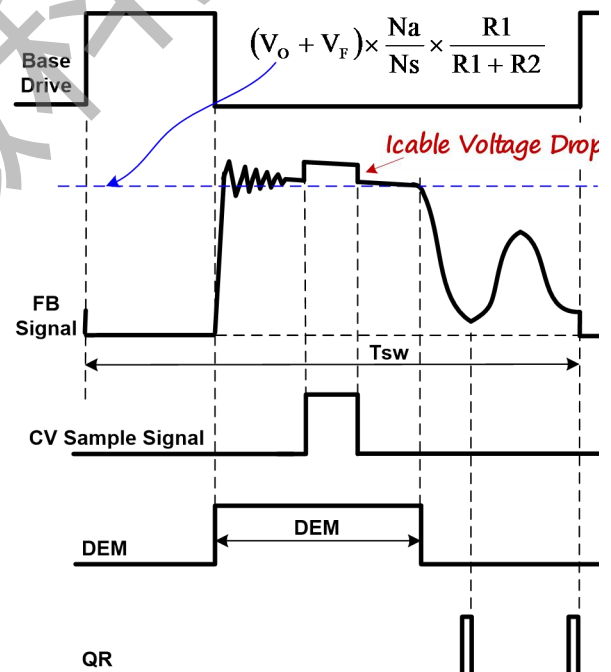

Fig.2
In Primary Side Regulation (PSR) control, the output voltage is sensed on the auxiliary winding during the transfer of transformer energy to the secondary. Fig.2 illustrates the timing waveform of CV sampling signal, demagnetization signal (DEM) and quasi-resonant (QR) trigger signal in CX7501. When the CV sampling process is over, the internal sample/hold (S&H) circuit captures the error signal and amplifies it through the internal Error Amplifier (EA). The output of EA is sent to the Quasi Resonant PSR CV Modulator (QR-CVM) for CV regulation. A valley is selected to trigger new PWM cycle by the output of the QR-CVM block, which is determined by the load. The internal reference voltage for EA is trimmed to 2V with high accuracy.
During the CV sampling process, an internal variable current source is flowing to FB pin for Cable Drop Compensation (CDC). Thus, there is a step at FB pin in the transformer demagnetization process, as shown in Fig.2. Fig.2 also illustrates the equation for “demagnetization plateau”, where V_o and V_F is the output voltage and diode forward voltage; R_1 and R_2 is the resistor divider connected from the